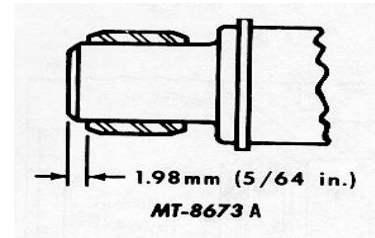

Fig. 18. Inner Race Location
To replace the rectifier end frame bearing(type shown in Figures 18, 19 and 20 only):
1. Pull the old inner race from the shaft and press the new inner race onto the dimension shown in Figure 18.